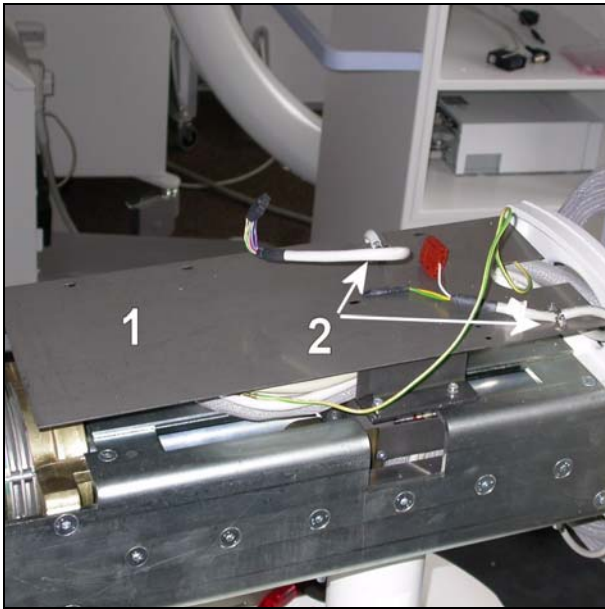

Fig. 17
- Remove the cover above the cable (1/Fig. 17). Also loosen the cable clamps (2/Fig. 17).